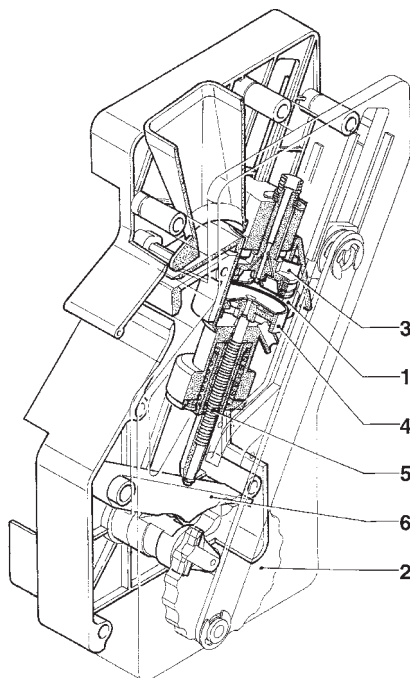

Fig. 12
The ratiomotor handle engaged with the disk (2) located outside of the assembly rotates by 180°, making the brew chamber swing and lowering the upper piston (3) (see Figure 12).